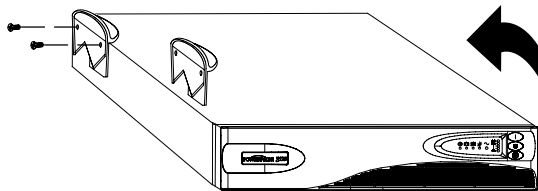

Figure 10. Installing UPS Pedestals (for Two Cabinets)
6. Place the UPS cabinet horizontally so that the left end of the cabinet is accessible (see Figure 10).